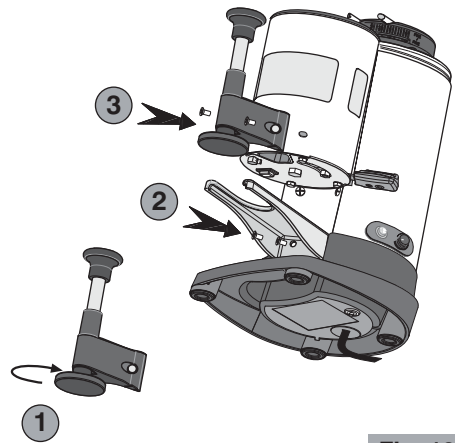

Fig. 10
- 2 Choose the suitable press diameter (53, 54,5 or 57,5 mm) for the filter-holder of your coffee machine and fix it to the rod of the telescopic press (1, Fig. 10).
- 3 Position the long support fork supplied with the telescopic press and fasten it using the same retaining screws of the short fork removed previously (2, Fig. 10).
- 4 Position the telescopic press and fasten it with the screws provided (3, Fig. 10).